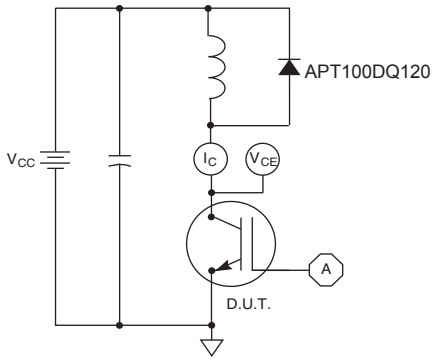

Figure 21, Inductive Switching Test Circuit
① Repetitive Rating: Pulse width limited by maximum junction temperature.
② For Combi devices, I_{ces} includes both IGBT and FRED leakages.
③ See MIL-STD-750 Method 3471.
④ E_{on1} is the clamped inductive turn-on energy of the IGBT only, without the effect of a commutating diode reverse recovery current adding to z the IGBT turn-on loss. Tested in inductive switching test circuit shown in figure 21, but with a Silicon Carbide diode.
⑤ E_{on2} is the clamped inductive turn-on energy that includes a commutating diode reverse recovery current in the IGBT turn-on switching loss. (See Figures 21, 22.)
⑥ E_{off} is the clamped inductive turn-off energy measured in accordance with JEDEC standard JESD24-1. (See Figures 21, 23.)
⑦ R_G is external gate resistance not including gate driver impedance.